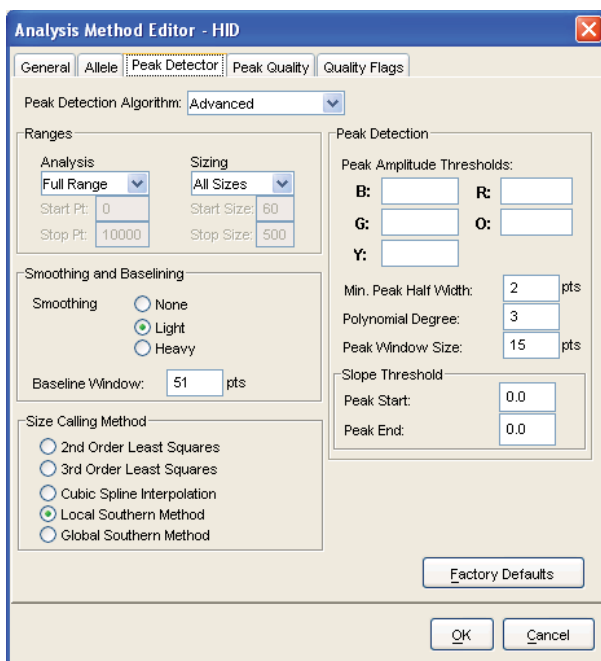

Figure 19. The GeneMapper® ID 'Peak Detector' tab
- Select the 'Peak Detector' tab (Figure 19). You will need to optimize these settings. In-house validation should be performed.